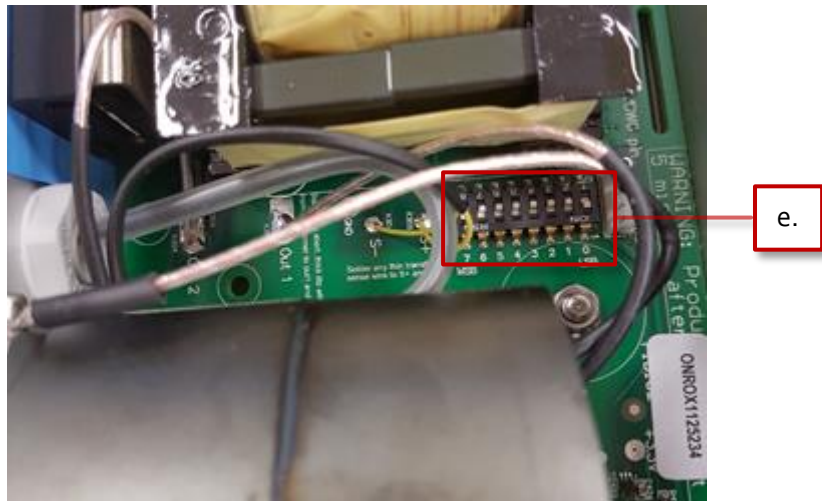

Figure 62 Set the positions of the DIP-switches in the new MiniSEPT
- e. Use a small screwdriver or something similar to gently alter the DIP-switches. They must be set in exactly the same positions (address) as in the just removed MiniSEPT, see Figure 62.